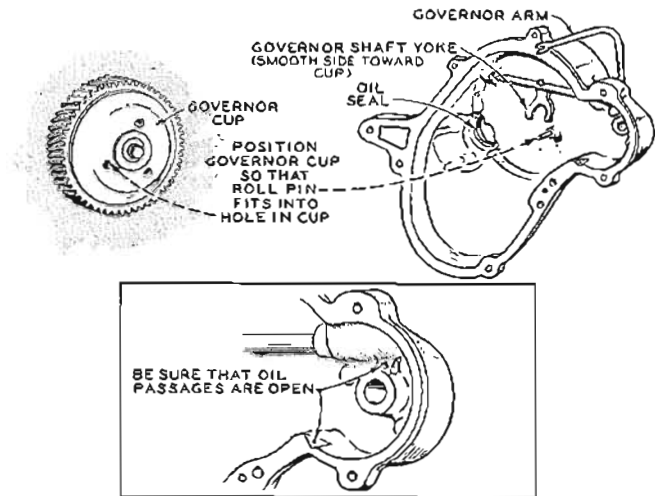

Figure A-39. Gear Cover Installation
(3) Gear Cover Assembly (fig. A-39).
(c) Turn the governor cup so the stop pin in the gear cover will fit into one of the holes in the cup surface (fig. A-39). Measure the distance from the end of the stop pin to the mounting face of the cover. It should be $25/32$ ". If it isn't, replace the pin.
(d) Using the oil seal driver or a piece of shim stock over the crankshaft keyway to protect the oil seal, install the gear cover. Tighten the mounting screws to the specified torque. Before tightening the screws, be sure the stop pin is in the governor cup hole (fig. A-39).